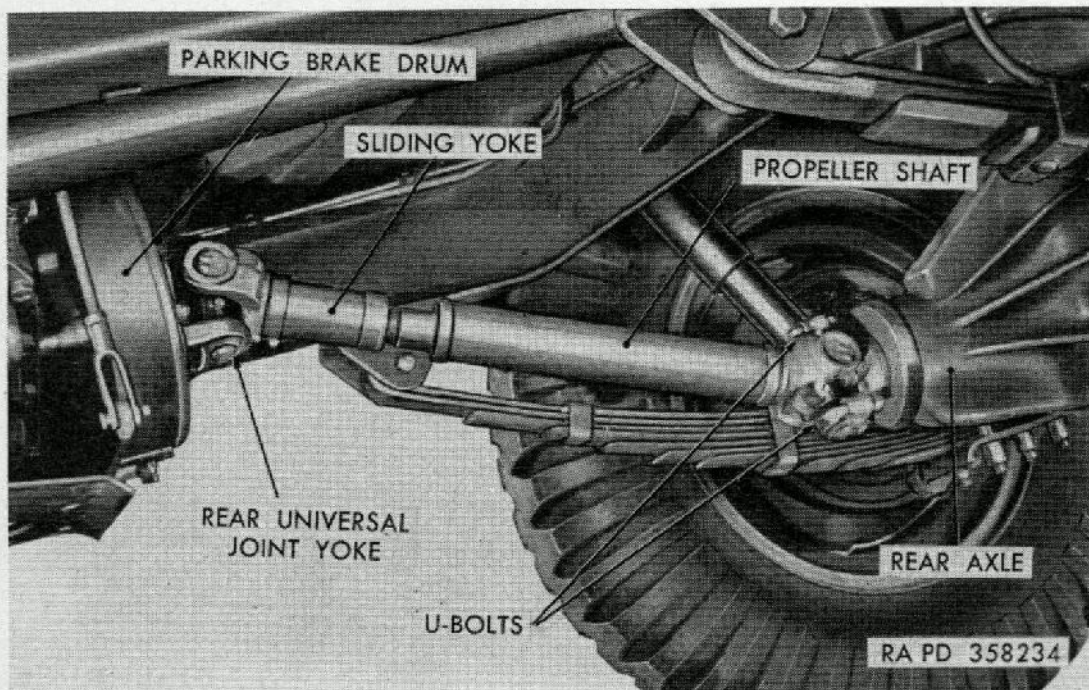

Figure 99. Rear propeller shaft installed.
*b. Rear Propeller Shaft (fig. 99).* Remove nuts, lock washers, and bolts attaching rear universal joint yoke to parking brake drum. Remove four safety nuts and remove the U bolts from the rear propeller shaft universal joint. Push the sliding yoke to collapse the propeller shaft and remove from vehicle.
*b. Rear Propeller Shaft (fig. 99).* Place rear universal joint yoke on parking brake drum and secure with four bolts, lock washers, and nuts. Position universal joint bearings in rear axle yoke and install U bolts, tightening safety nuts securely.